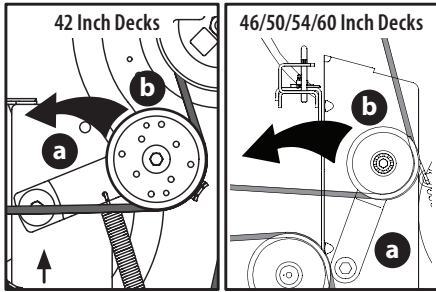

Fig. 41
- a. Using the deck lift handle, the deck lift pedal and knob or the deck lift pedal and pin, raise the deck to the position that provides the most horizontal run of the belt between the deck idler pulleys and the PTO pulley on the bottom of the engine (Fig. 41).
- b. Working from the middle of the tractor, pivot the idler bracket (a) and movable idler pulley (b) rearward just far enough to lift the belt up and over the spindle pulley (Fig. 41).